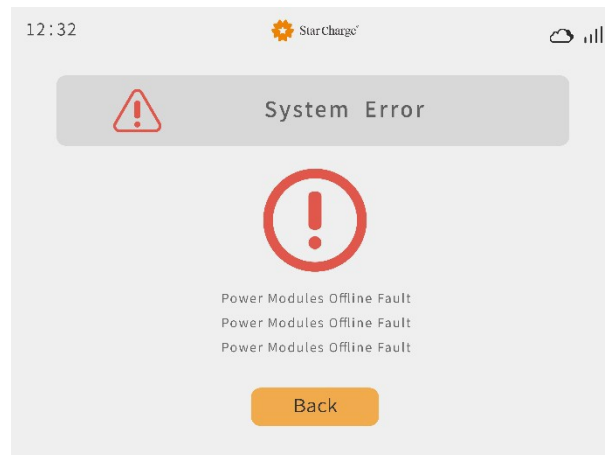

Figure 3-8 Fault details interface
Step 8: Click the exclamation mark to view the fault information. Please contact the after-sales technical service for repair, as shown in Figure 3-8.